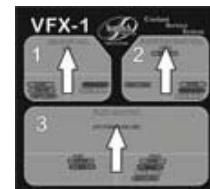

Figure 4
- 11) Return **AIR CONTROL** valve #1 and **FLUID CONTROL** valve #3 to **OFF** position. Turn **FUNCTION CONTROL** valve #2 to **HOLD** position. (Fig 4)